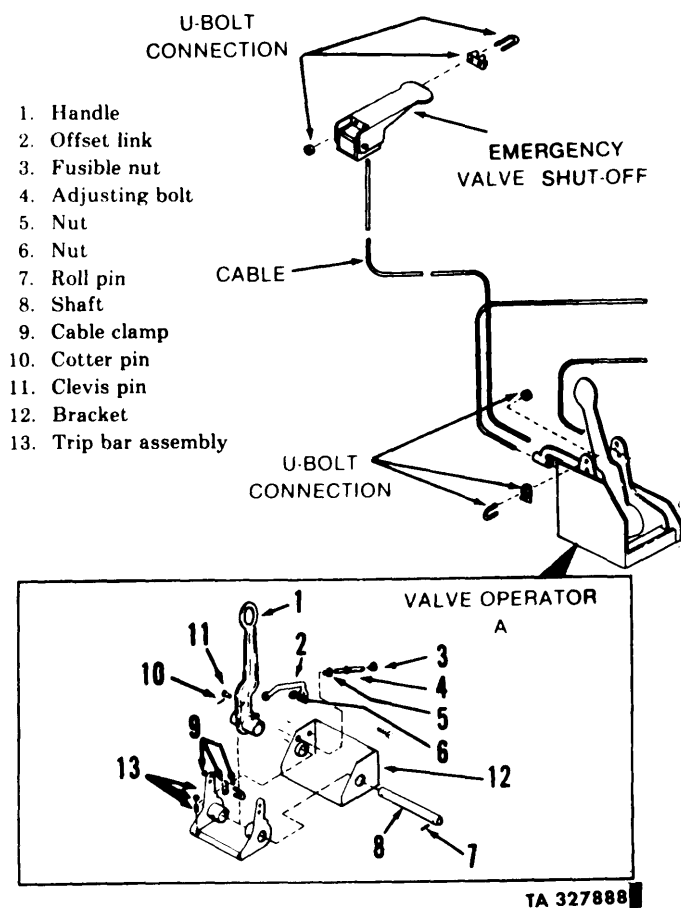

Figure 4-35A. Emergency Valve Control and Cables.
*f. Emergency Value Control and Cable (Fig. 4-35A)*